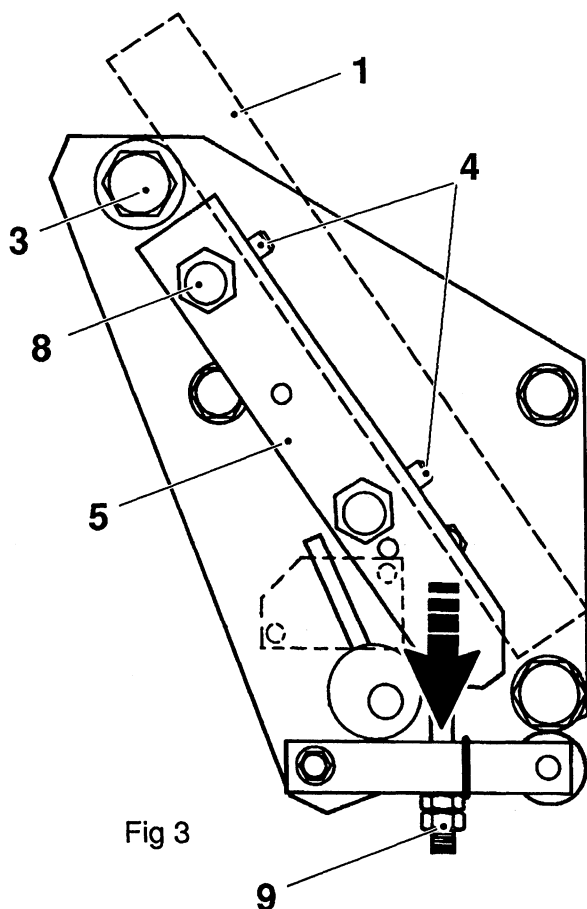

Fig 3
- Place the ruler (1) in the groove in the vacuum plate. Loosen the nuts (2) and move the pins to set the position of the vacuum plate. The ruler is to touch the roller (3).
- Set the pressure screws (4) so that the vacuum plate (5) can only be moved sideways.
- Place the ruler (6) in the groove and check that the flanges of the roller (3) and the groove are in line. Adjust by means of shims (7) behind the roller. Check with both narrow and wide IS strip.
- Undo the screws (8) and pull off the vacuum plate (5). Fit tool TP No. 74767-102, see arrow fig. 3.
- Set the spring force for the pressure roller to 35 – 45 N. Adjust the spring force by means of the adjustment screw (9).